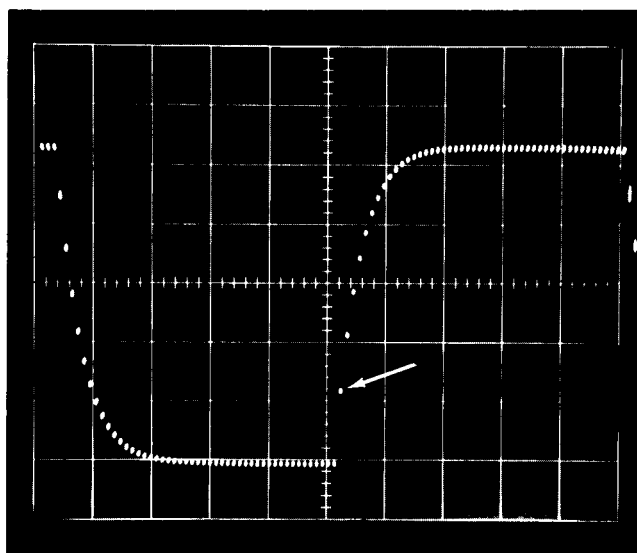

Fig. 7-2. Typical photograph showing dot response in SMOOTH.
- Check that the first dot on the step is within 1.5 divisions of the lower flat portion of the waveform. See Fig. 7-2.